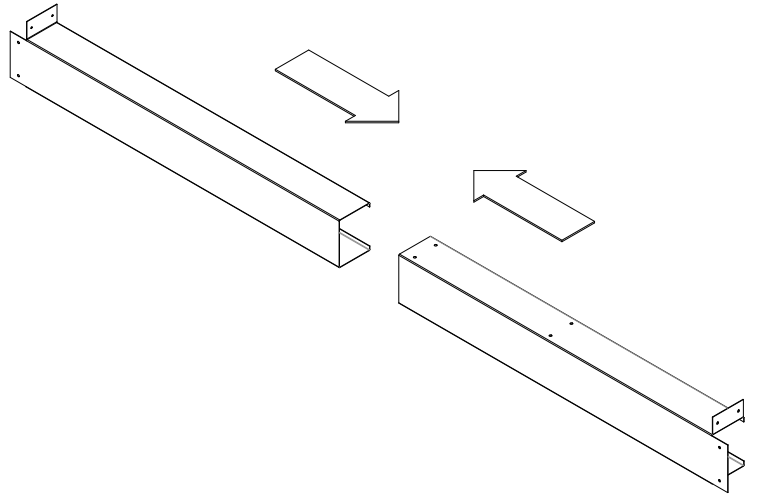

Figure 16: Steel Stud Assembly
- Take the two steel stud pieces and slid them into each other. The flanges of each piece should be at the end of the assembly, as well as facing upwards as shown in Figure 16.